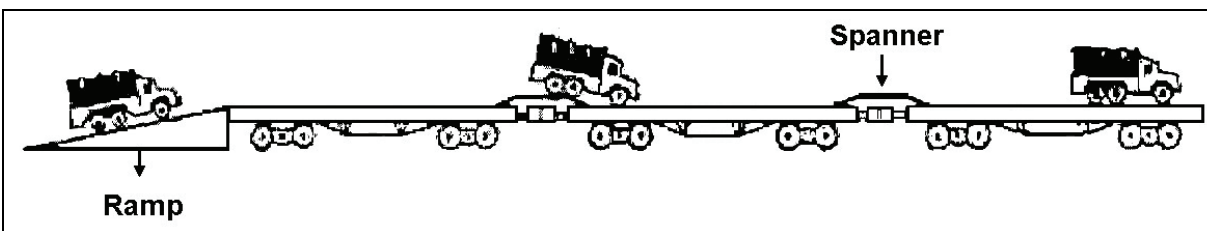

Figure 3-64. Circus Method Loading Vehicles
2. Load all vehicles from the rearmost car and move them forward to the assigned position (see Figure 3-64).
3. Put spanners securely in place to bridge the distance between flatcars (see Figure 3-64).